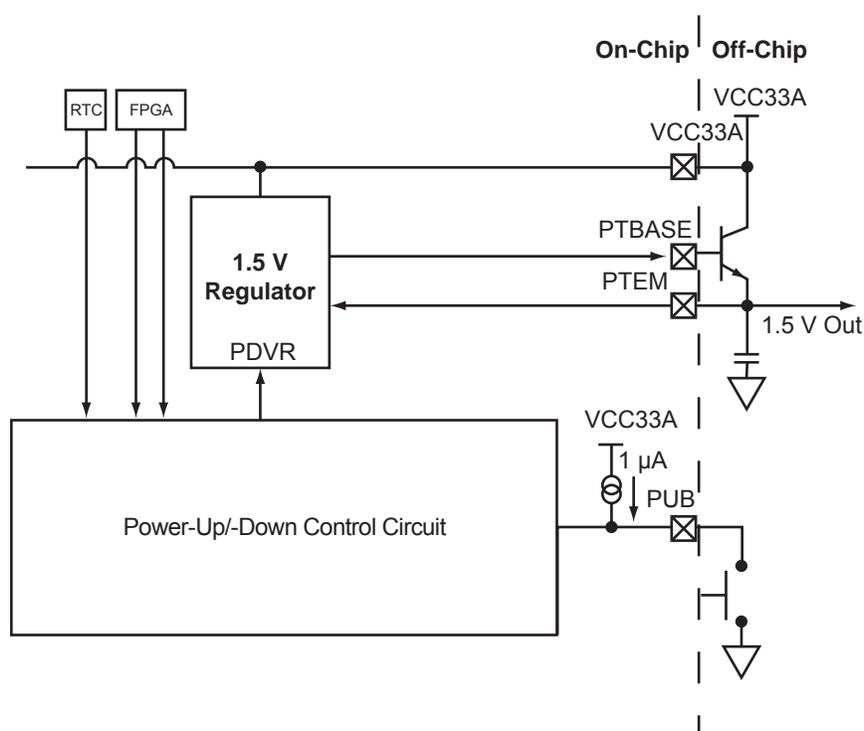

Figure 23-2 • 1.5 V Voltage Regulator (VR)
In conjunction with an external pass transistor, the voltage regulator (VR) generates a 1.5 V power supply from the 3.3 V power supply (Figure 23-2). The VR can drive up to 20 mA of current to the base of the transistor. The maximum 1.5 V current supplied will depend upon the gain of the transistor utilized and the clamp current of the 3.3 V power supply. Using a typical transistor with a gain of 25, the 1.5 V output can easily supply current requirements for the Fusion device. If there are additional 1.5 V board requirements, the transistor can be sized accordingly. Microsemi recommends using the following transistors with the VR: PN2222A or 2N2222A.